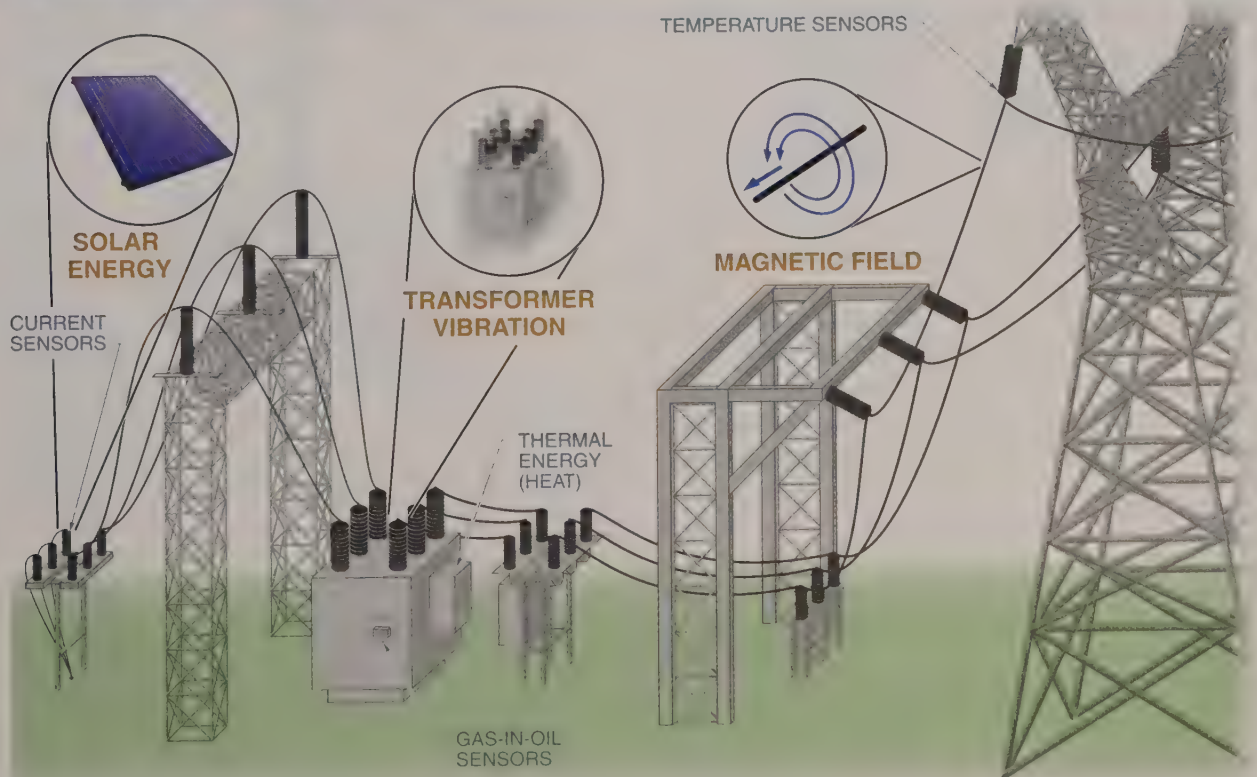

Figure 28-51. Power harvesting is the process of obtaining power from the surrounding environment and using it to power sensors.
grid technology. *Power harvesting* is the process of obtaining power from the surrounding environment. See Figure 28-51. The primary sources of power harvesting are solar energy, vibration, magnetic fields, thermal (heat) energy, and radio frequency (RF) waves.